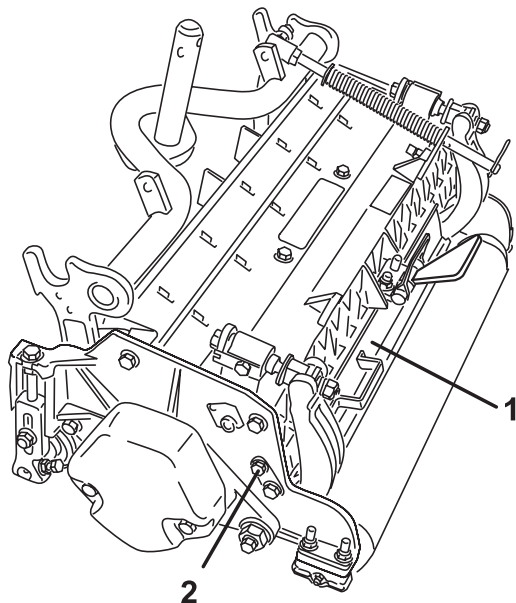

Figure 3
1. To open the rear shield (Fig. 3), loosen the capscrew securing the shield to the left side plate, rotate the shield to the open position and tighten the capscrew.